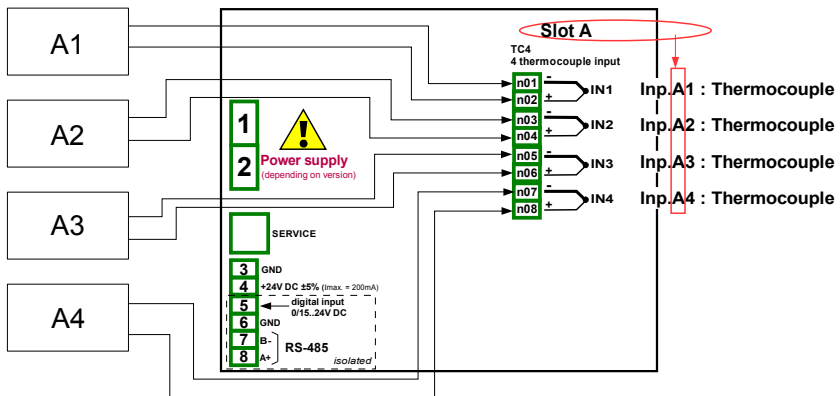

Fig. 7.68. Schematic diagram for the **TC4** module
Before measuring temperature the thermocouple sensors should be connected to the device. An example of the connection is shown in **Fig. 7.68**.
- Source parameter set as **Inp. A1: Thermocouple** (see the connection in **Fig. 7.68**),
- **Source** parameter set as **Source - Inp. A2: Thermocouple** (see Fig. 7.68),
- Source parameter set as **Source - Inp. A3: Thermocouple** (see Fig. 7.68),
- Source parameter set as **Source - Inp. A4: Thermocouple** (see Fig. 7.68),